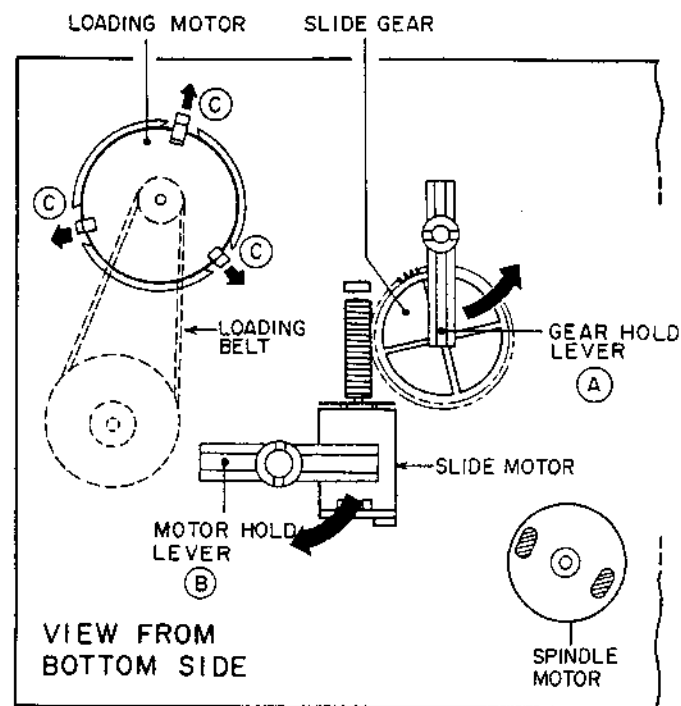

Fig. 4-4
- 2) Extend motor holders (C), at the same time, push the LOADING MOTOR from pulley side, then remove the LOADING MOTOR. (Fig. 4-4)
- 1) Turn the MOTOR LOCK LEVER (B) clockwise.
- 2) Pull out the SLIDE MOTOR. (Fig. 4-4)
- 1) Turn the GEAR HOLD LEVER (A) counterclockwise, then Pull out the SLIDE GEAR. (Fig.4-4)